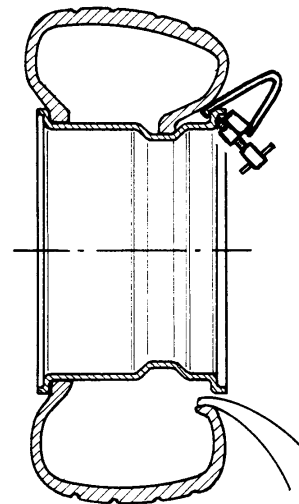

Fig.36
4. Rotate the chuck clockwise until the tire is completely mounted. Ensure that outer bead descends into the drop center when the clamp is opposite to the mount/demount tool (Fig.36).